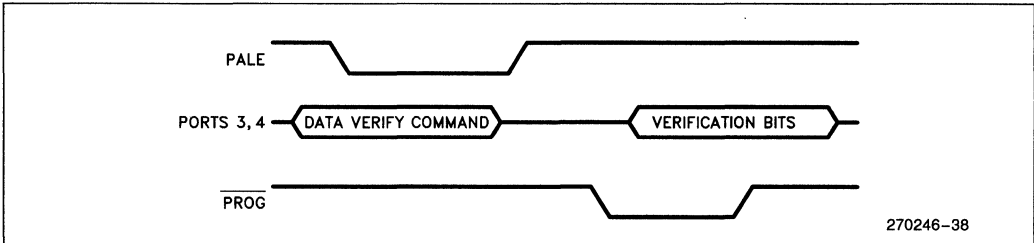

Figure 38. Data Verify Command Signals
**DATA VERIFY COMMAND**—When the Data Verify Command is sent, the slaves respond by driving one bit of Port 3 and 4 to indicate correct or incorrect verification of the previous Data Program. A 1 indicates correct verification, while a 0 indicates incorrect verification. The SID (Slave ID Number) of each slave determines which bit of the command/data path is driven.  $\overline{PROG}$  from the programmer governs when the slaves drive the bus. Figure 38 shows the relationship of Ports 3 and 4 to PALE and  $\overline{PROG}$ .